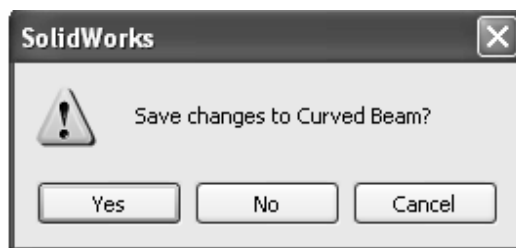

Figure 26 – **SolidWorks** window requests user confirmation whether or not to save changes to the current analysis.
2. The **SolidWorks** window, Fig. 26, opens and asks, “**Save changes to Curved Beam Analysis?**” Select the **[Yes]** button. This action saves all results files along with other items specified during this solution.